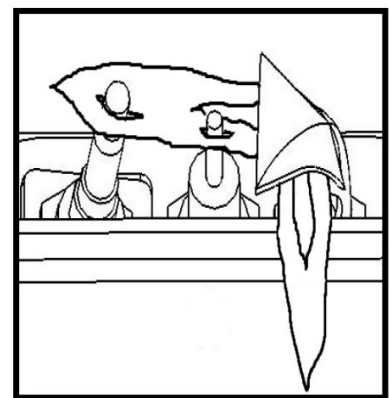

FIG. 2
11. Wait five (5) minutes to clear out any gas. Then smell for gas including near the floor. If you smell gas, STOP! Follow "B" in the safety information above. If you don't smell gas, proceed to step 5.
13. Continuing beeps confirm the ignition is in process. Once lighting the pilot flame should appear as shown in Fig.2. Once the pilot is confirmed, the main burner ignites on high.
For your safety, this appliance is fitted with a flame supervision device which will shut-off the gas supply if, for any reason, the pilot flame goes out. This device incorporates a fixed probe, which senses the heat from the pilot flame. If the probe is cool, the device will prevent any gas flow unless manually lighting the pilot. See full lighting instructions. Periodically check the pilot and burner flames, comparing them to figure 2 on the preceding page, and the image at the bottom of this page.